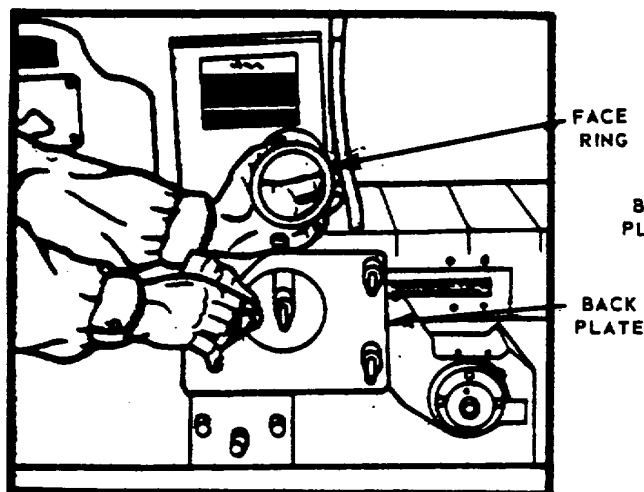

FIGURE 110
- (1) See Figure 110. Clean surfaces of Face Ring and Back Plate very thoroughly.